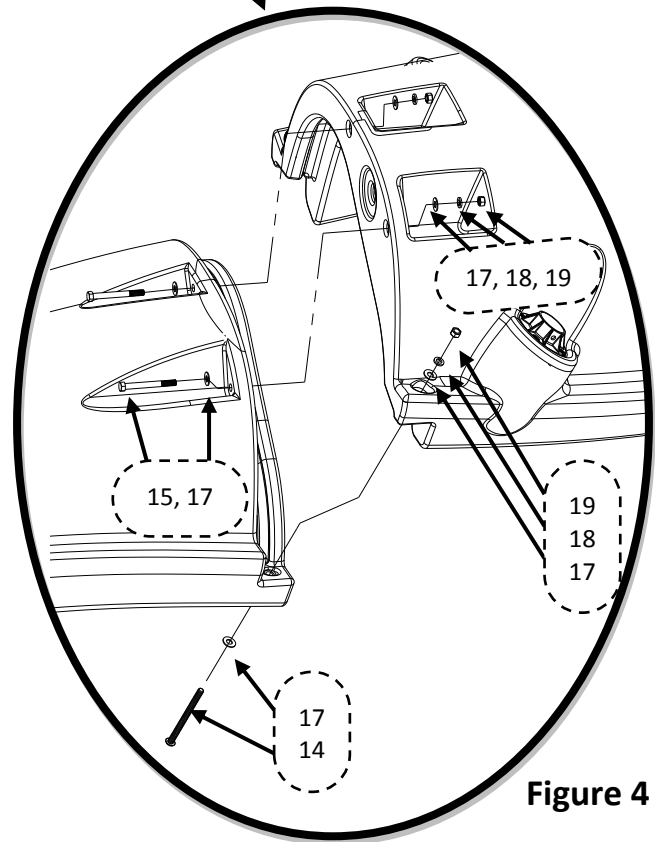

Figure 4
- c. Begin by installing the hardware through the outside rails of the runway. Insert a (#14) 5" Button Head Screw with a (#17) Flat Washer though each side rail as shown in Figure 4. Fasten each screw using a (#17) Flat Washer, (#18) Lock Washer, and (#19) Hex nut. Do not fully tighten at this point.
- d. Next, insert the hardware through the holes in the bottom of the runway parts. Insert a (#15) 3.5" Hex Head Screw with a (#17) Flat Washer though each hole as shown in Figure 4. Fasten each screw using a (#17) Flat Washer, (#18) Lock Washer, and (#19) Hex nut.